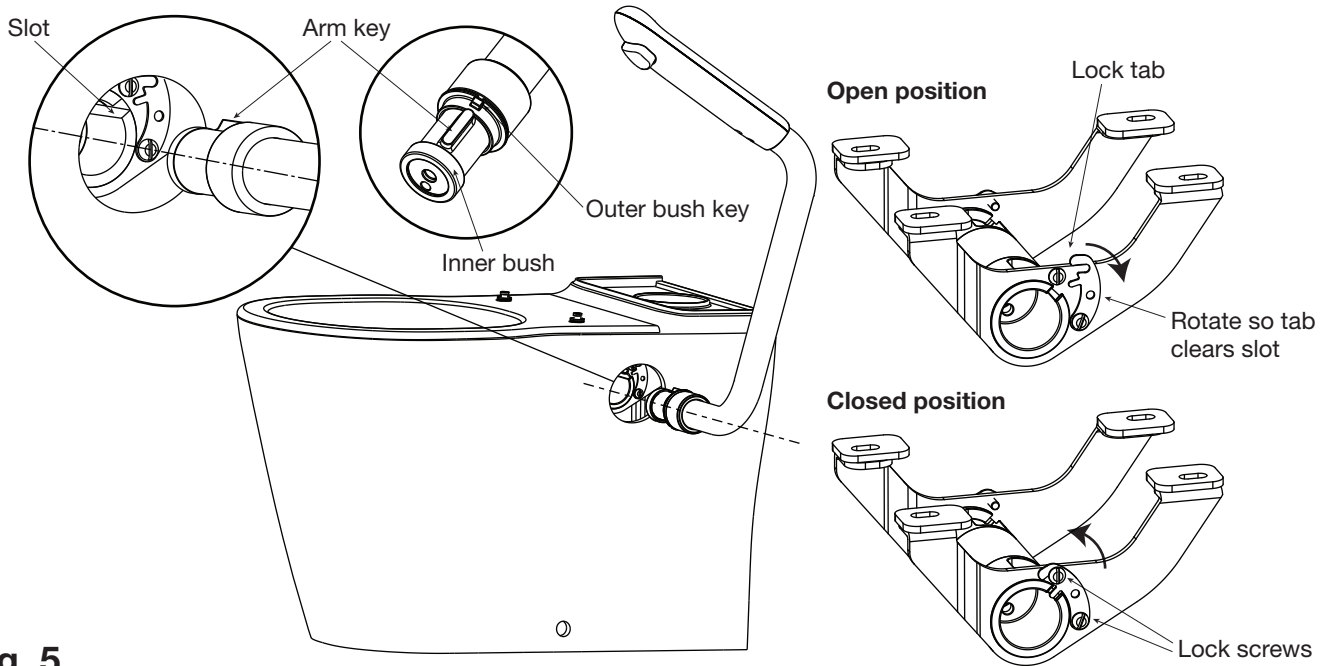

Fig. 5
5. Rotate lock tabs backwards so tab clears slot. Install inner and outer bushes ensuring outer bush key is aligned to key as shown above in **Fig. 5**. Install arms by tilting back and aligning key into slot. Once arms are in place ensure they rotate up and down and locking mechanism functions. Now rotate lock tab into closed position and secure by tightening two screws on each side of bracket. Arm should lock in both upper and lower position. Button releases lock.